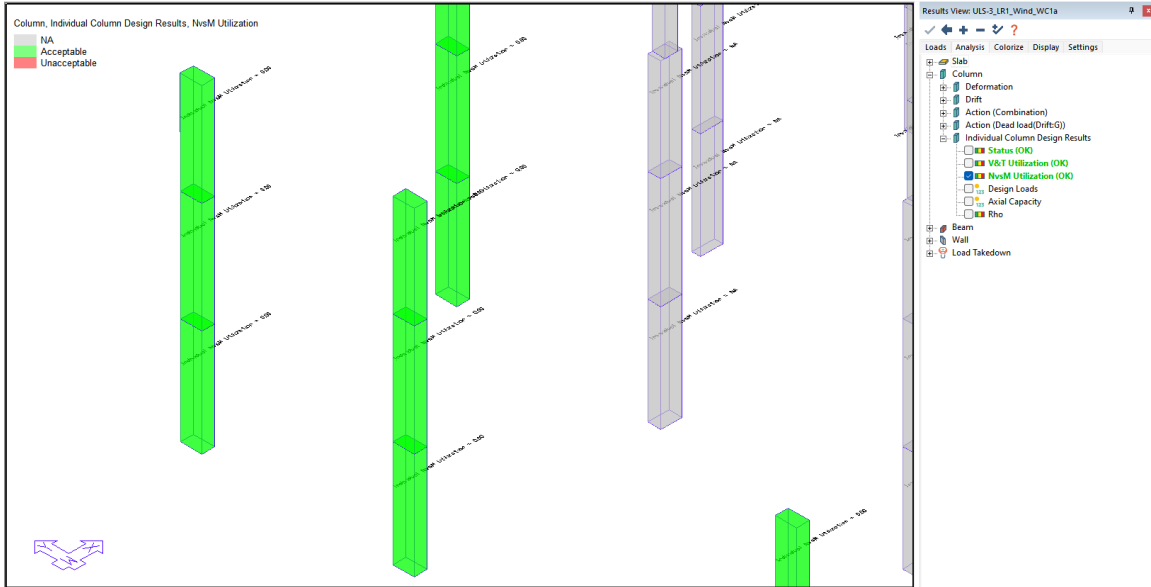

FIGURE 15-14
- After the code check process is completed, go to the *Results View* panel *Analysis* tab and select the *Column* → *Individual Column Design Results* options for **Status** and **NvM Utilization**. Note both must be viewed separately. **FIGURE 15-14** shows the interaction check for the columns belonging to the design group. Note the other options available to check. Columns that have not been designed or code checked will appear gray (NA). If the column code check were to show that some of our columns will need to be revised to come to a code compliant design, the user can revise the sizes of the columns and reinforcement in the section type and iteratively code check the columns until they pass.